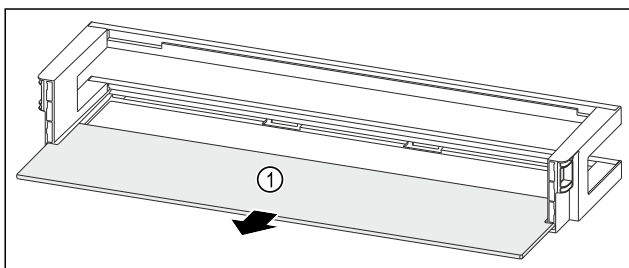

Fig. 145 Door rack with shelf
- ▶ Remove the shelf Fig. 145 (1).